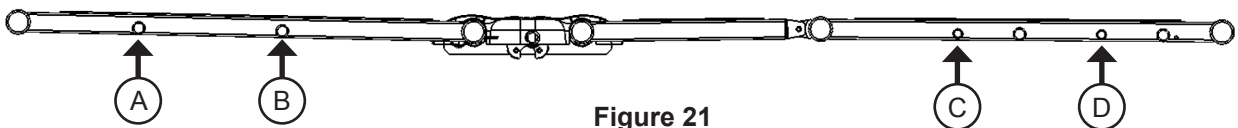
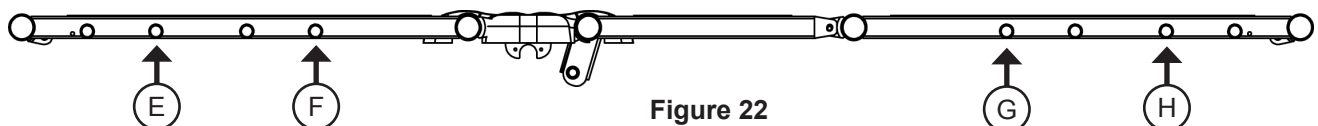

Figure 21
Figure 22
2. Insert the side rail in holes A, B, C, and D for 80" bed (Figure 21) and in holes E, F, G, and H for 76" bed (Figure 22).